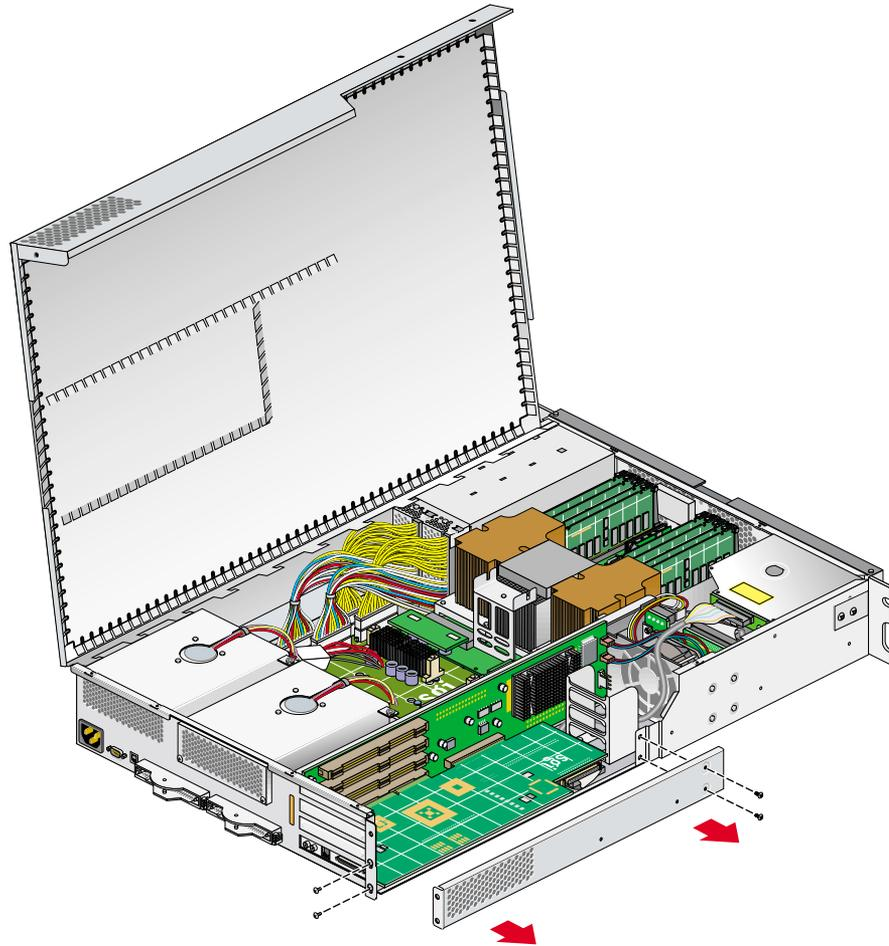

Figure 7-5 Removing the Lower PCI/PCI-X Support Bracket
9. If you are installing a card in one of the two lowermost card slots, you must remove the lower PCI/PCI-X support bracket that covers the two lowermost slots, as shown in Figure 7-5, by removing the four Phillips screws.